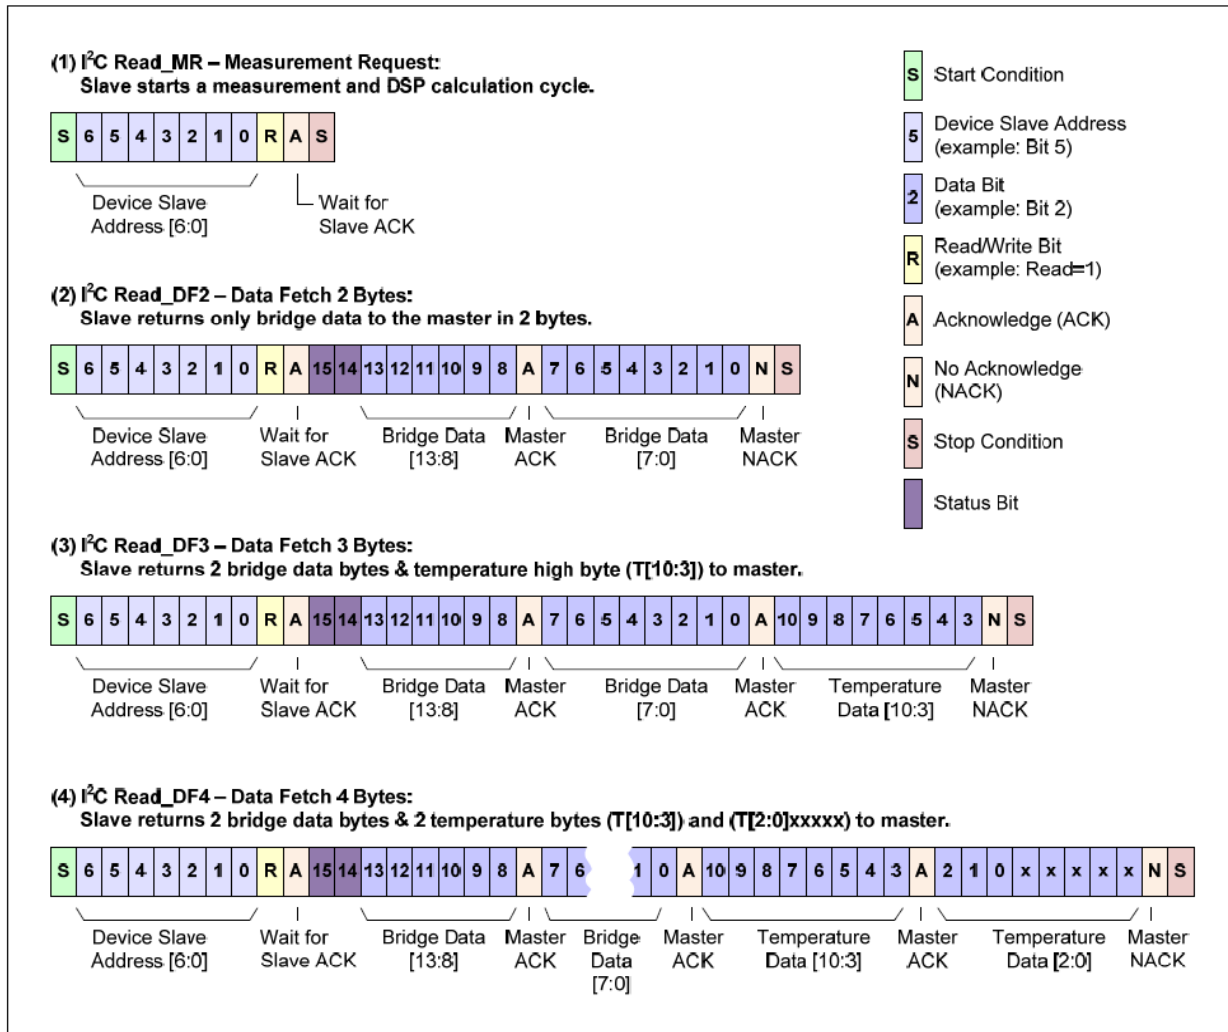

Figure 1.6 – I2C Measurement Packet Reads
Read\_DF2, Read\_DF3, and Read\_DF4. Figure 1.6 shows the structure of the measurement packet for three of the four I2C read commands, which are explained in sections 1.6.1 and 1.6.2
For Data Fetch commands, the number of data bytes returned by the RBiCiLite™ is determined by when the master sends the NACK and stop condition. For the Read\_DF3 data fetch command (Data Fetch 3 Bytes; see example 3 in Figure 1.6), the sensor returns three bytes in response to the master sending the slave address and the READ bit (1): two bytes of bridge data with the two status bits as the MSBs and then 1 byte of temperature data (8-bit accuracy). After receiving the required number of data bytes, the master sends the NACK and stop condition to terminate the read operation. For the Read\_DF4 command, the master delays sending the NACK and continues reading an additional final byte to acquire the full corrected 11-bit temperature measurement. In this case, the last 5 bits of the final byte of the packet are undetermined and should be masked off in the application. The Read\_DF2 command is used if corrected temperature is not required. The master terminates the READ operation after the two bytes of bridge data (see example 2 in Figure 1.6).